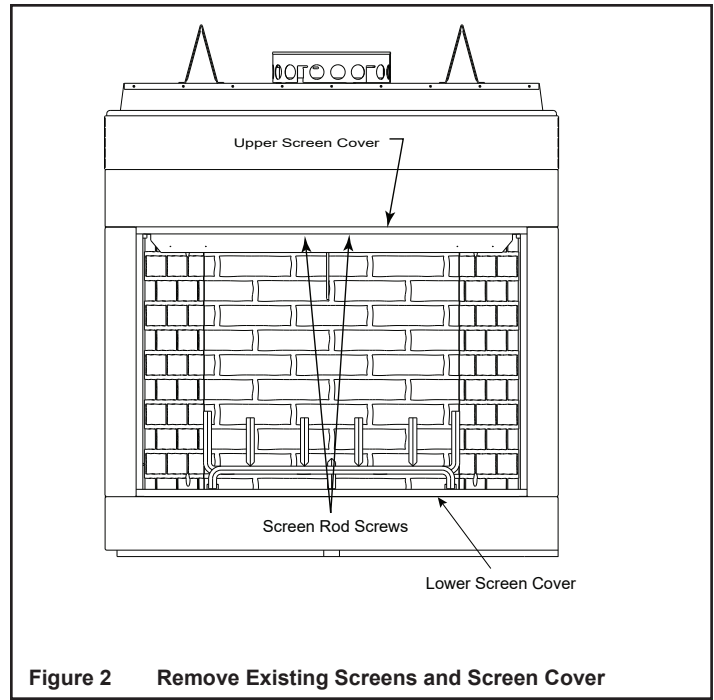

Figure 2 Remove Existing Screens and Screen Cover
- Remove one screw in each of the screen rods behind the screen cover (refer to Figure 2).
- B. Remove screws securing screen cover (refer to Figure 2).